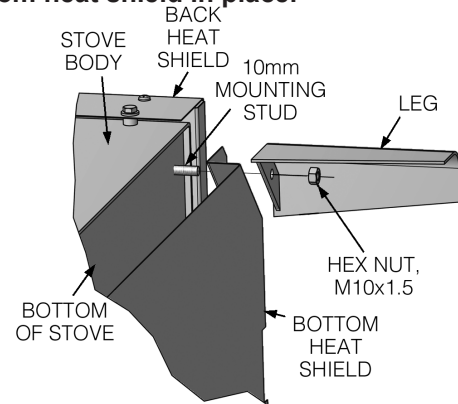

Fig. 1 – LEG ASSEMBLY
5. Position the bottom heat shield, figure 1, aligning the corner holes with the four leg mounting
6. Align each leg with the mounting stud and slide into place. Replace the leg mounting hardware (hex nut, fig. 1) after installing the leg. After all four legs have been installed, tighten all mounting hardware.
3. After observing the clearances to combustible materials (figures 3–5), locate your floor protector accordingly (figure 1) and carefully place the stove in your selected location. Install stove pipe, elbows, and thimble as required, utilizing either a recently cleaned and inspected 6" masonry chimney or a 6" i.d. listed type HT chimney.
4. Use 6" round black stove pipe, not galvanized stove pipe. Secure each pipe section with three (3) sheet metal screws in each stove pipe and/or elbow joint to firmly hold the pipe sections together. **DO NOT CONNECT THIS STOVE TO ANY AIR DISTRIBUTION OR DUCT SYSTEM.**